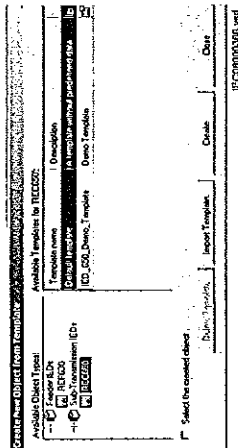

Figure 27: PC600: Selecting IED from template library
2. Select *New and Create from Template ...* to open the *Create New Object from Template* window, see Figure 27.
5. Click *Delete Template* to delete the template, click *Import Template* to import a template from the selection window or click *Create* to insert the selected IED to the bay, see Figure 27.